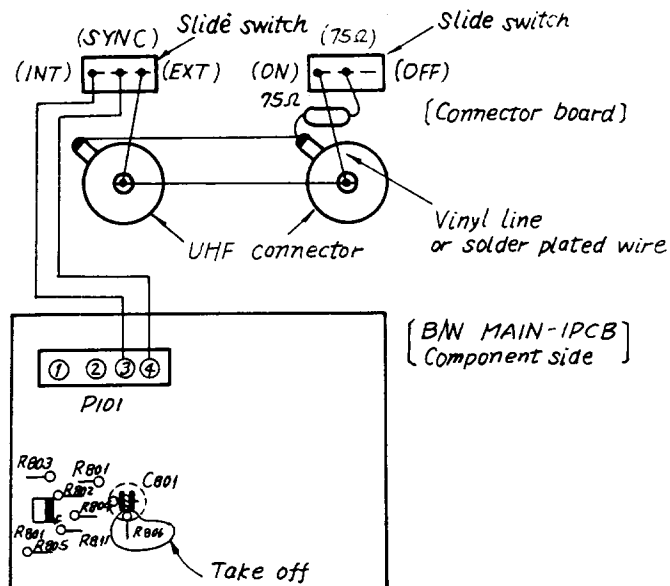

Fig. 7
- c) Make connection as illustrated in Fig. 7.